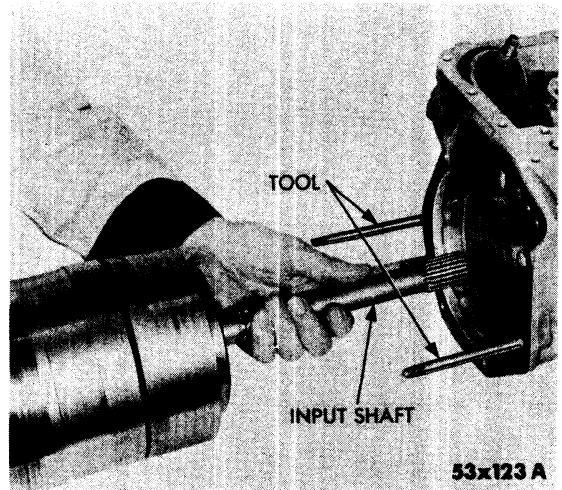

Fig. 112—Preparing to Install Power Train Assembly
- (4) Install guide studs, Tool C-3283, in rear of transmission case. Position new output shaft support gasket over guide studs and on to case.
- (5) Insert input shaft, with direct clutch assembly, planet pinion carrier housing, output shaft support, and output shaft attached, through the rear of transmission case and through the torque converter reaction shaft. Guide assembly through bands and over guide studs and into position in transmission case, as shown in Figures 112 and 113.